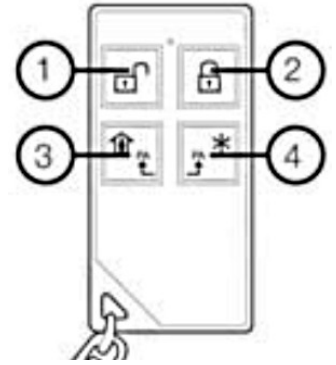

Figure 40. Keyfob Crow FW2-RMT-8F
2. **Keyfob** – delete the previous registration by pressing the ② and ③ buttons simultaneously. Registration – press ③ and ④ buttons simultaneously (see Figure 40);